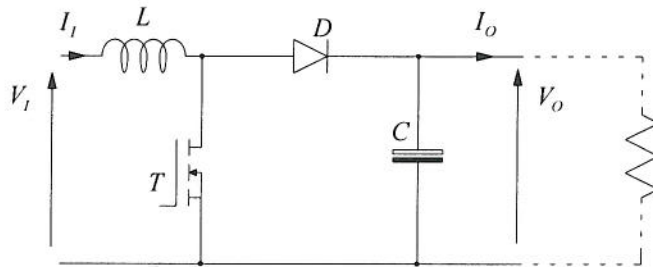

Figure Q2
2. Figure Q2 show the circuit of a boost switch-mode power supply (SMPS). It is to be operated in continuous with an input voltage of 5 V and output voltage of 15 V. It will be required to process a maximum throughput power of 10 W and have an output voltage ripple which is no greater than 75 mV. The turn-on and turn-off energy losses of the MOSFET operated at 2 A are 4 μ J and 6 μ J. The on-state resistance of the MOSFET is 0.2 Ω .